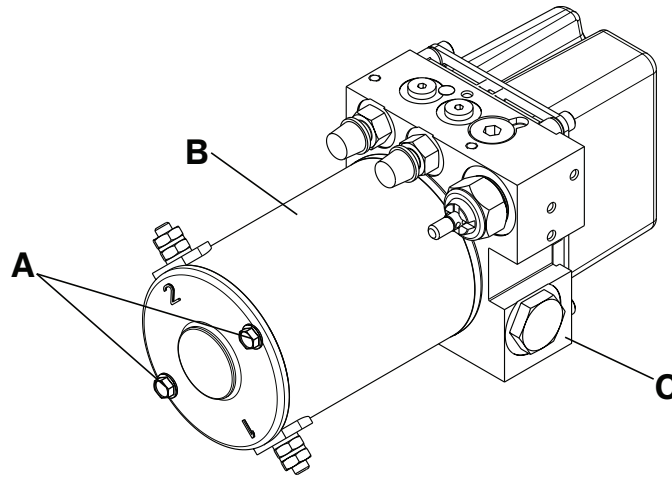

Figure 36 – Motor replacement parts
4. Using a 9/32" socket and 1/4" drive ratchet, remove the two bolts (A) that secure the motor (B) to the hydraulic manifold assembly (C) (Figure 36).